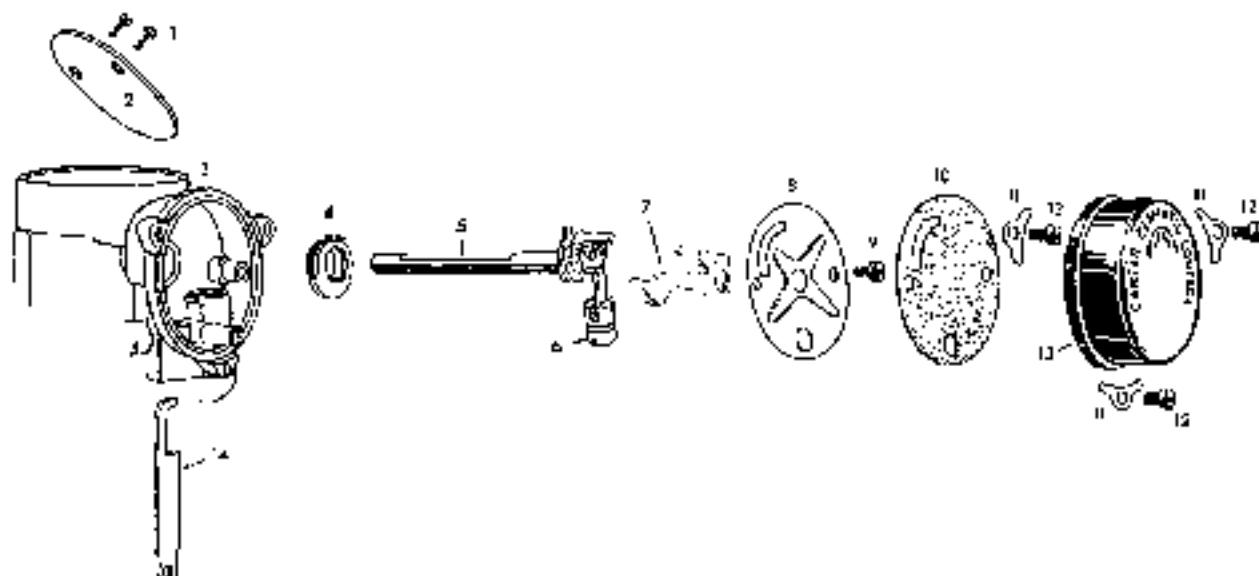

FIG. 399
Remove the climate control housing (13, Fig. 399) with the nozzle and gasket (10). Remove the screw (9) which holds the baffle plate in the housing and remove the baffle plate (8), choke trip lever (7) and fast idle link (14).